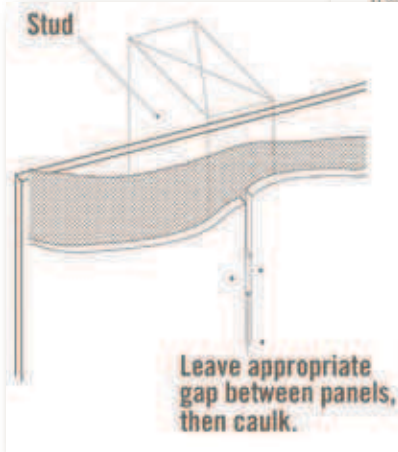

Fig. 8.2
- Leave appropriate gap and caulk according to caulk manufacturer's recommendations. (Fig. 8.2)